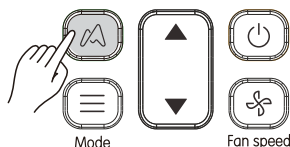

Figure 3.15
1) Press  (see Figure 3.15) to send the ETA function signal to the indoor unit. The  icon is displayed;